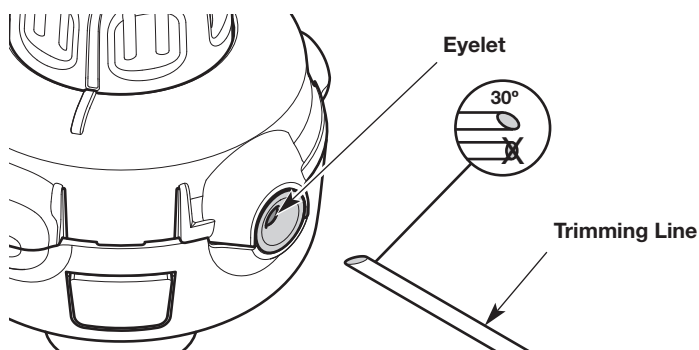

Fig. 24
2. Cut two 7-foot (2.1 m) lengths of new trimming line. Cut one end of each line at a 30 degree angle (Fig. 24).
4. Insert one of the lines into an eyelet on the cutting head (Fig. 24). Use the angled end and push the line in about 3 inches (7.5 cm). Repeat this process with the other line and remaining eyelet.